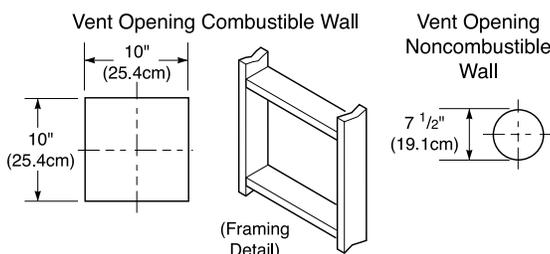
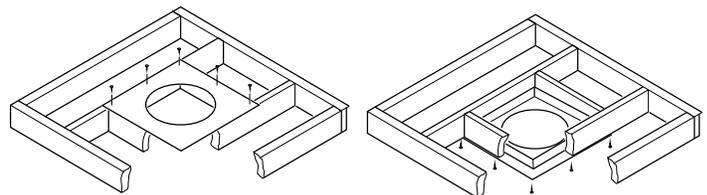

Figure 21 - Vent Opening Requirements
Figure 30 - Installing Firestop
- Attach vent pipe assembly to the fireplace. Set fireplace in front of its permanent location to insure minimum clearances. Mark the wall for a 10" square hole (for noncombustible material such as masonry block or concrete, a 7 1/2" diameter hole is acceptable). See Figure 21. The center of the hole should line up with the center-line of the horizontal rigid vent pipe. Cut a 10"x10" (25.4cm x 25.4cm) square hole through combustible exterior wall (7 1/2" [19.1cm] diameter hole if noncombustible). Frame as necessary (see Figure 21).
1. Cut a 10" square hole in the ceiling using the locating hole as a center point. The opening should be framed to 10"x10" (25.4cm x 25.4cm) inside dimensions, as shown in Figure 21 on page 13 using framing lumber the same size as the ceiling joists. If the area above the ceiling is an insulated ceiling or a room, nail firestop from the top side. This prevents loose insulation from falling into the required clearance space. Otherwise, install firestop below the framed hole. The firestop should be installed with no less than three nails per side (see Figure 30).
3. Cut a hole in the roof using the locating hole as a center point. (Cover any exposed open vent pipes before cutting hole in roof.) The 10"x10" hole must be measured on the horizontal; actual length may be larger depending on the pitch of the roof. There must be a 1" clearance from the vent pipe to combustible materials. Frame the opening as shown in Figure 21 on page 13.